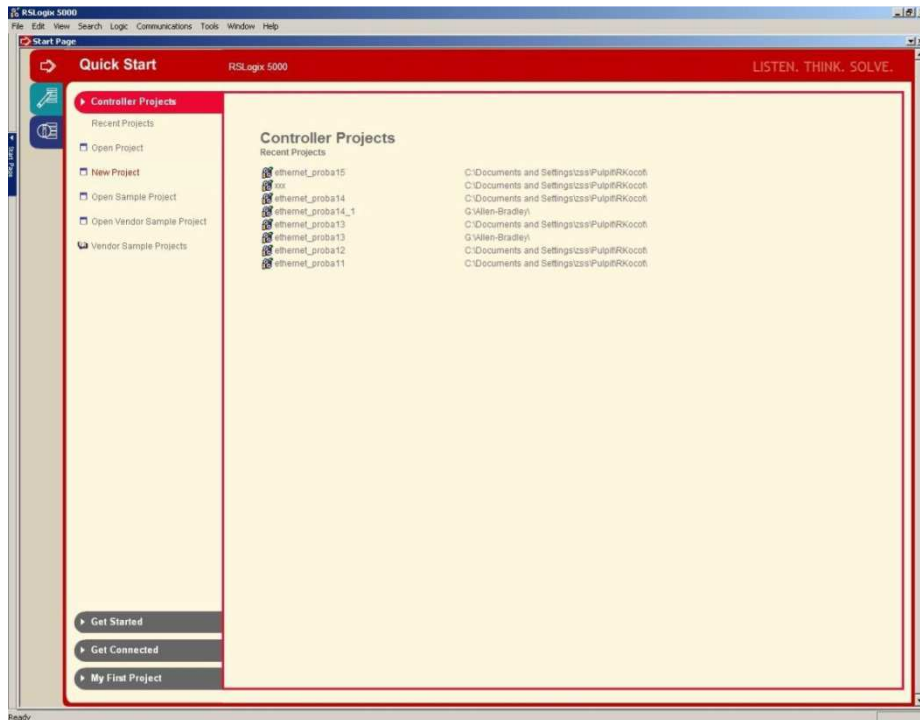

Fig. 3: The RSLogix5000 new project main window
1) To create new project start *RSLogix5000* software. The *RSLogix5000* main window is shown in Fig. 3.